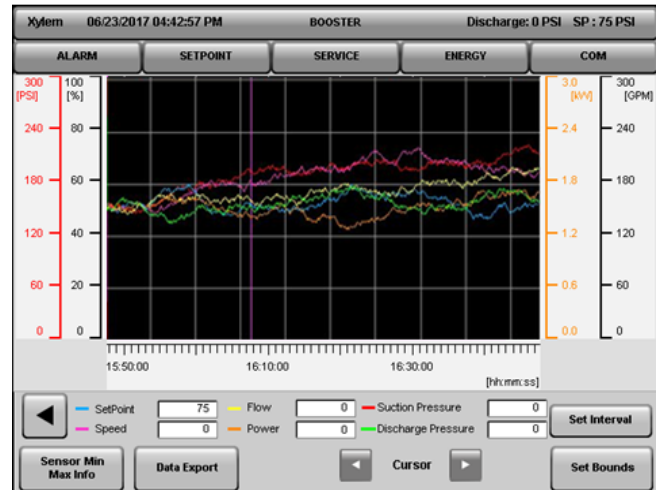

Figure 5.8.1 – Trend Screen
Just beside Alarm status display on the Home Screen, there is a button  to open Trend Screen as shown in Figure 5.1 (12). When this trend button is pressed, Trend Screen will open as shown in Figure 5.8.1